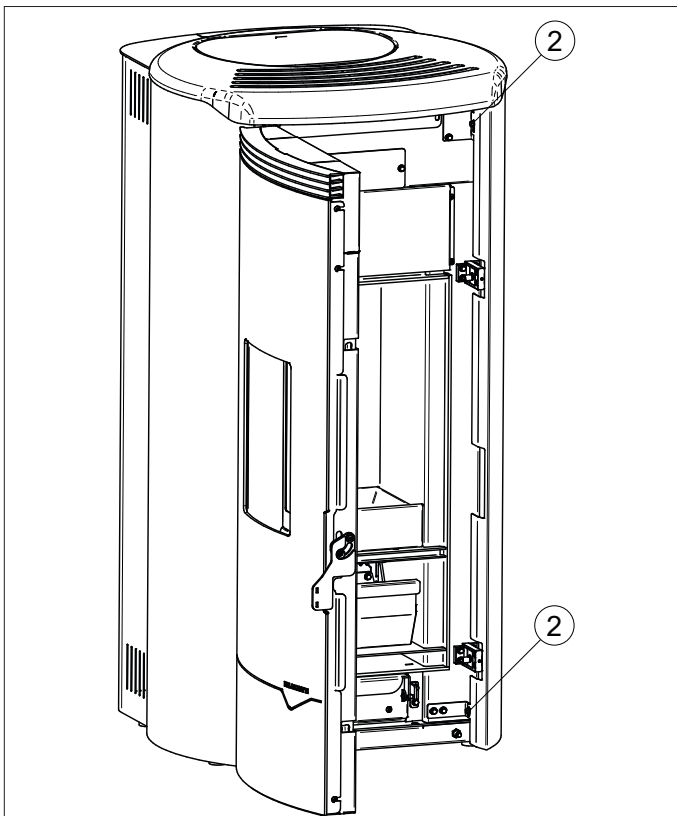

Fig. 6.3b
- Loosen the two front screws (2), loosen the four rear fixing screws of the right side (3) and remove it (**Fig. 6.3b - 6.3c**).